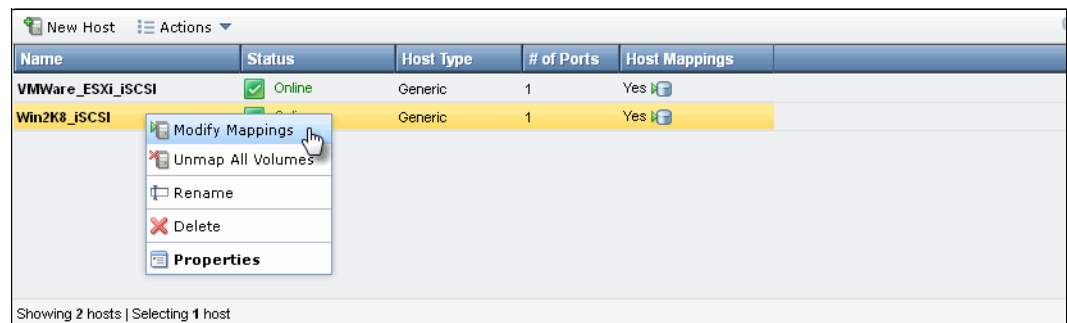

Figure 5-25 All hosts window
2. Right-click the host to which a volume is to be mapped and select **Modify Mappings**, as shown in Figure 5-25.